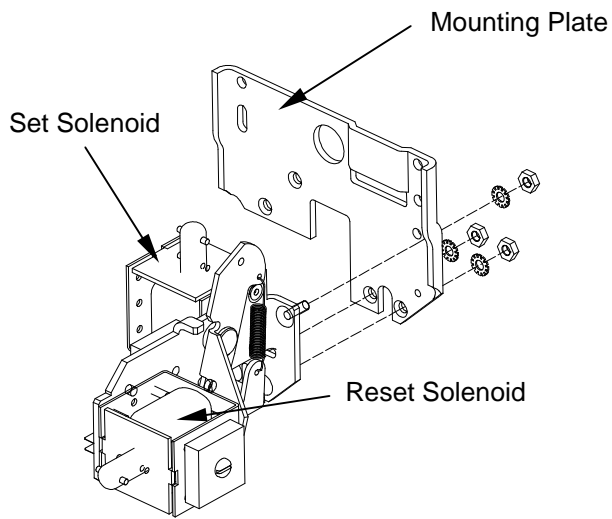

Figure 3. Fastening the Network Interlock module to the mounting plate.
4. Fasten the Network Interlock module to the accessory mounting plate using three sets of # 8-32 nuts, spring washers, and flat washers as shown in Figure 3
4. Remove the Network Interlock module from the mounting plate by removing the three sets of nuts and washers, as shown in Figure 3.
3. Fasten the Network Interlock module to the accessory mounting plate using three sets of # 8-32 nuts, spring washers, and flat washers as shown in Figure 3